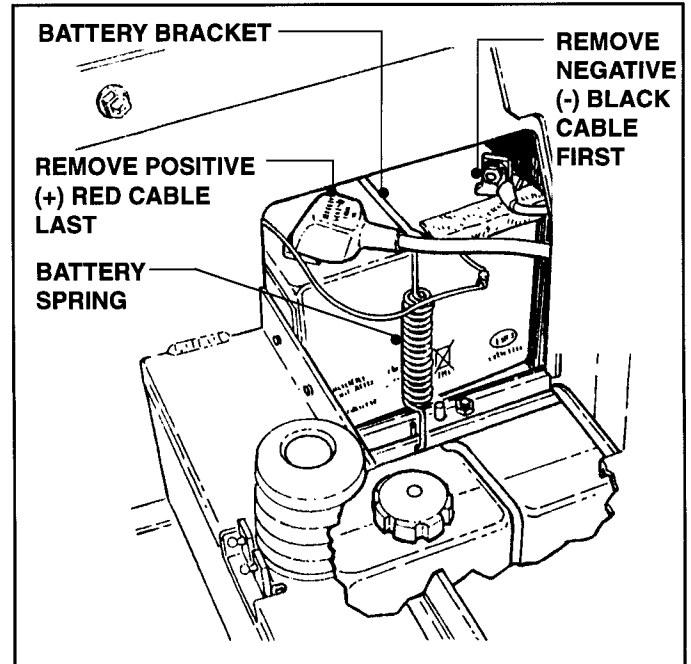

FIGURE 7.6
1. Disconnect the Battery. Remove NEGATIVE (-) BLACK Cable first and POSITIVE (+) RED Cable last. Secure Cables away from the Battery. See Figure 7.6.